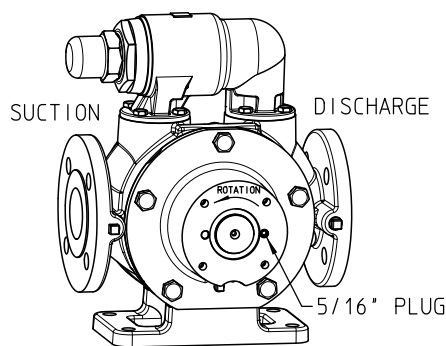

FIGURE 11
10. Ensure the proper suckback/flush hole is plugged per **figure 11**.